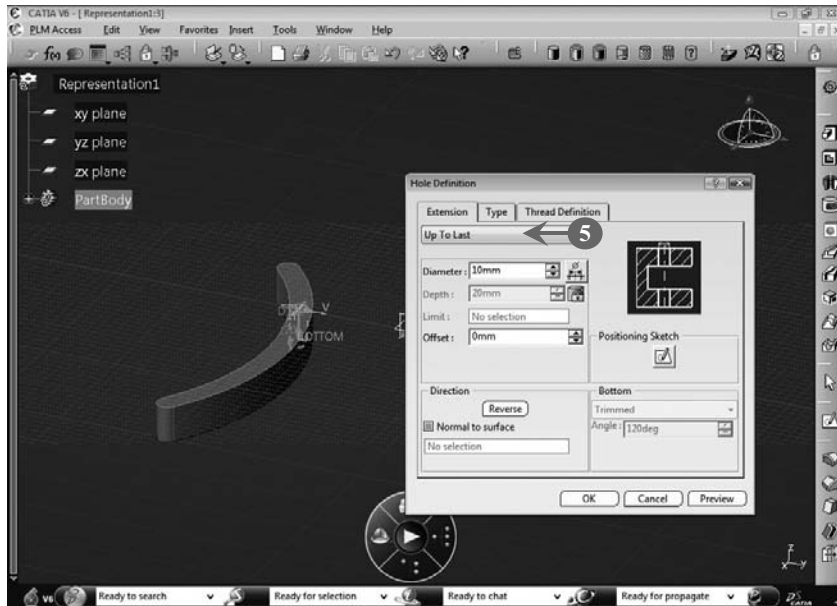

FIGURE 3.28
5. Select the **Up To Last** option from the drop-down list in the **Extension** tab, as shown in **Figure 3.28**: